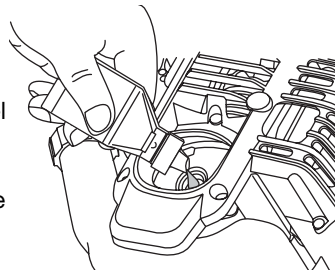

Fig. 12
4. Pour the entire bottle of oil into the oil fill hole (Fig. 12).